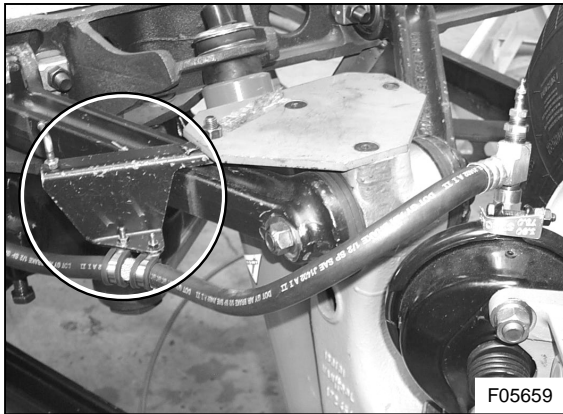

Figure 21: Hose to steering knuckle bracket VH 10761391 installation (angular air spring mounting plate)
- Install bracket VH 10761390 from the kit in case the coach is equipped with an angular mounting plate (installation shown in Figure 21).